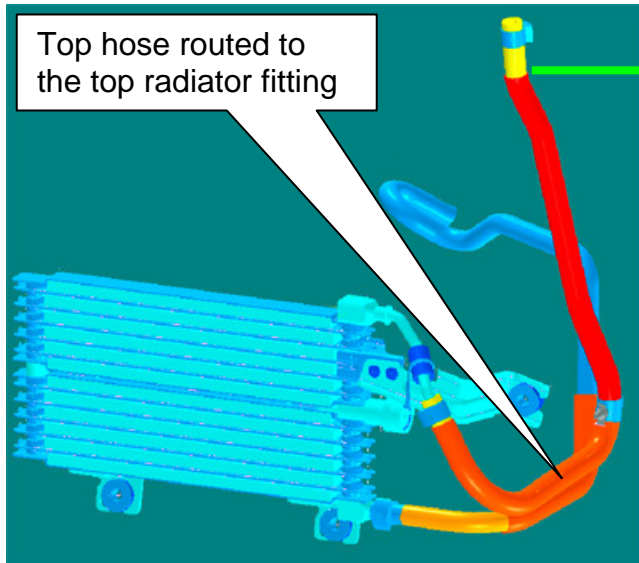
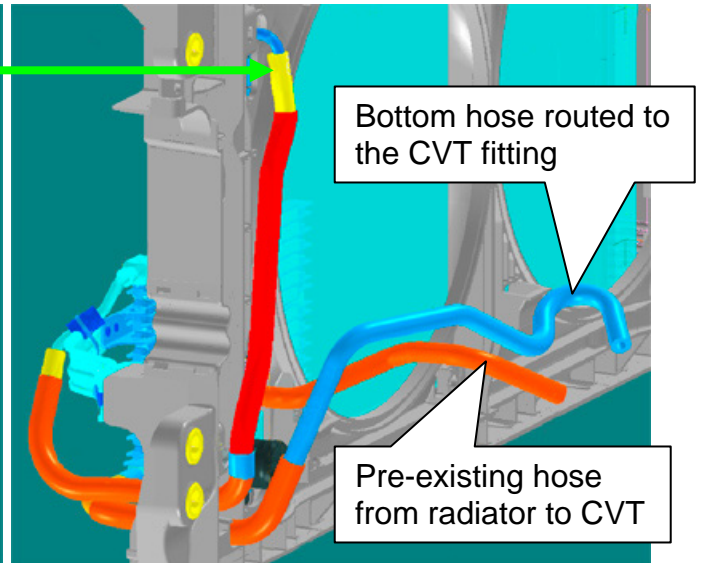

Figure 4
Figure 5
- See Figure 4 and Figure 5 on page 7 for correct hose routing.
Figure 4 and Figure 5 show hose routing from the COOLER ASSY-AUTO TRANS (external CVT cooler) to the radiator and the CVT.
9. Attach the second COOLER ASSY-AUTO TRANS fluid hose to the CVT (Figure 5).